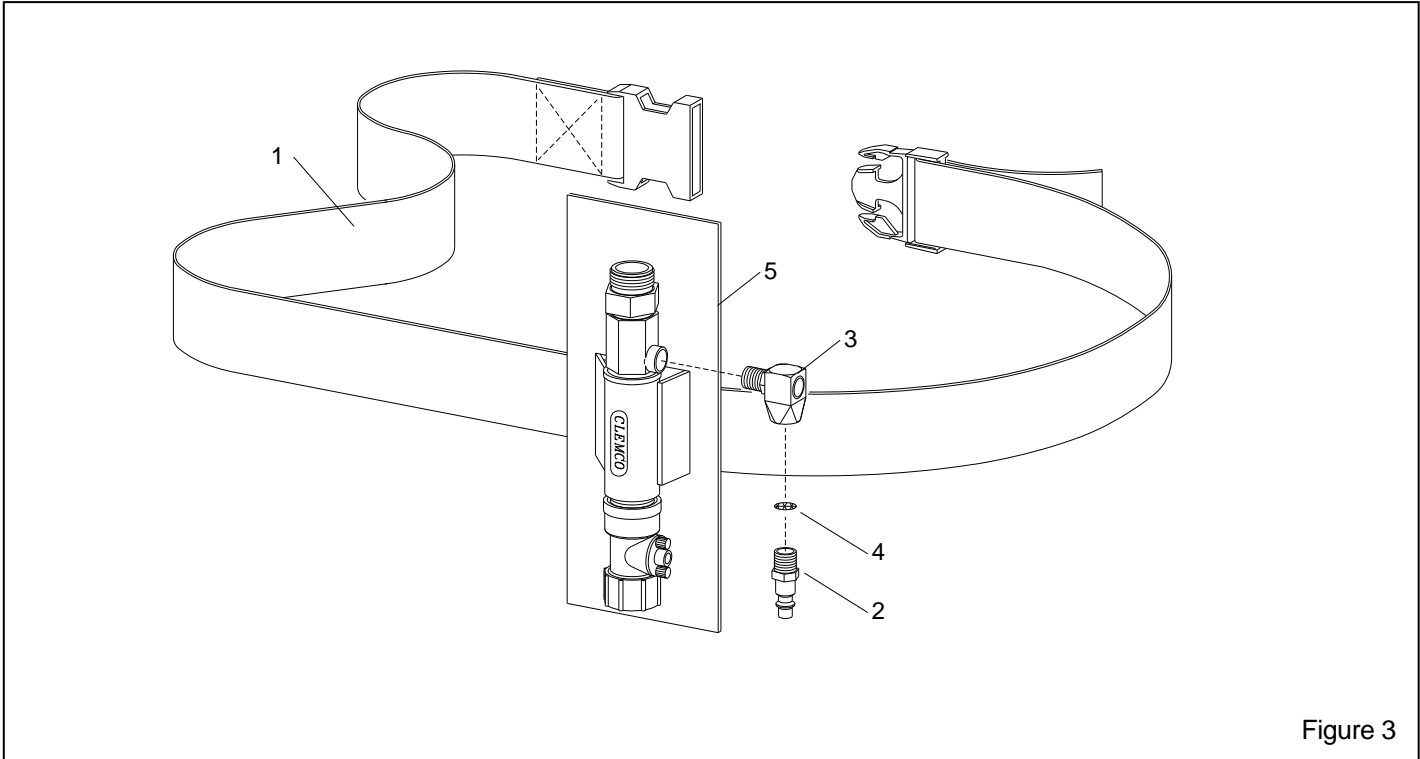

Figure 3
**3.4.1** To adjust air temperature, rotate the temperature control valve (shown in Figure 3) located on the lower part of the air conditioner, toward "OFF" for ambient temperature or toward "ON" for maximum cooling. The valve may be positioned anywhere in between to attain the most comfortable temperature setting.
6.0 REPLACEMENT PARTS, FIGURE 3